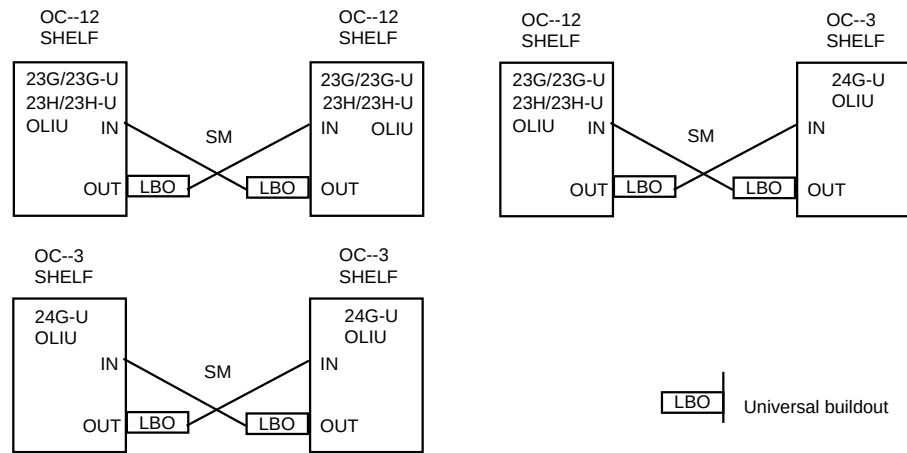

Figure 2. DDM-2000 OC-3 Shelf/OC-12 Shelf OC-12 Fiber Optic Connections and Line Buildouts
17. Verify proper systems have been connected by using the **rtrv-map-network** and **rtrv-map-neighbor** command to retrieve a map of the network (Figures 2 and 3).